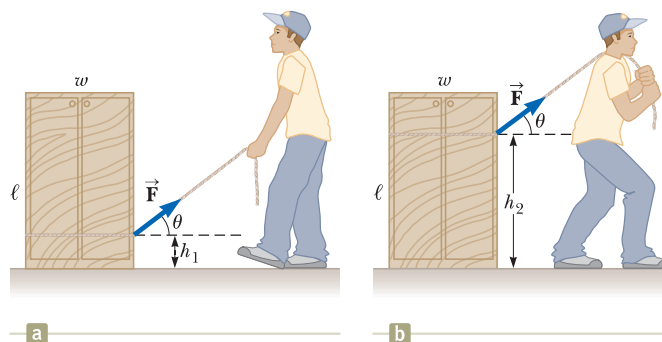

Figure P12.50 Problems 50 and 62.
62. Consider the rectangular cabinet of Problem 50 shown in Figure P12.50, but with a force \vec{F} applied horizontally at the upper edge. (a) What is the minimum force required to start to tip the cabinet? (b) What is the minimum coefficient of static friction required for the cabinet not to slide with the application of a force of this magnitude? (c) Find the magnitude and direction of the minimum force required to tip the cabinet if the point of application can be chosen *anywhere* on the cabinet.